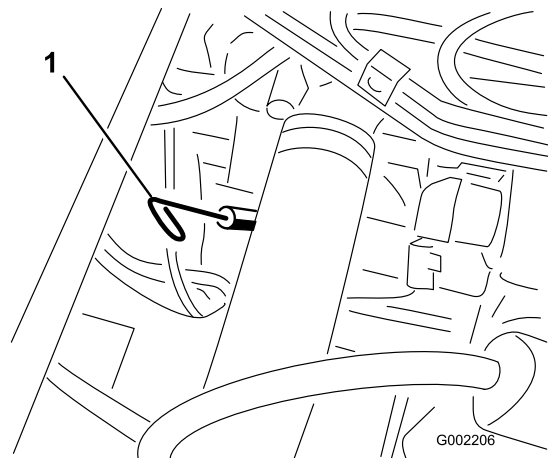

Figure 18
2. Remove the dipstick, located under the passenger seat, and wipe it with a clean rag (Figure 18). Insert the dipstick into the tube and make sure it is seated fully. Remove the dipstick and check the oil level.